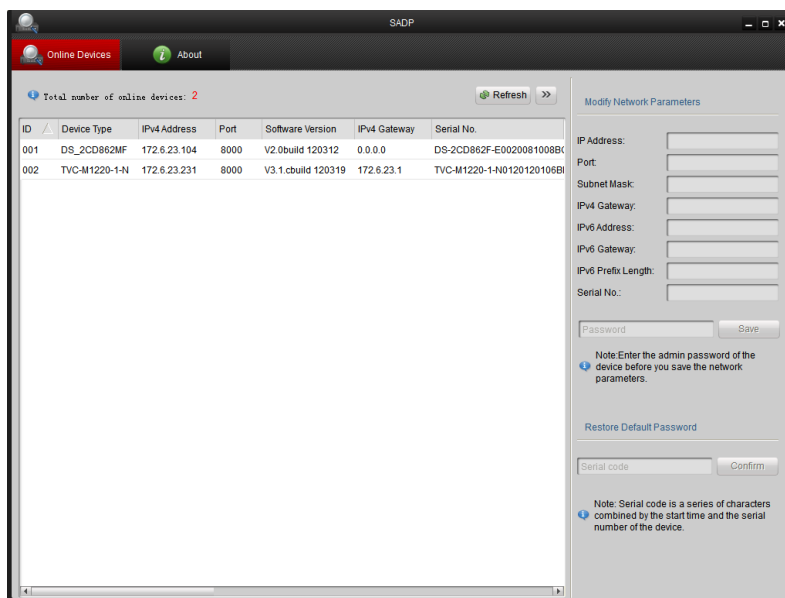

Figure 2-3 SADP Interface
- ◆ Use SADP, a software tool which can automatically detect the online network cameras in the LAN and list the device information including IP address, subnet mask, port number, device serial number, device version, etc., shown in Figure 2-3.